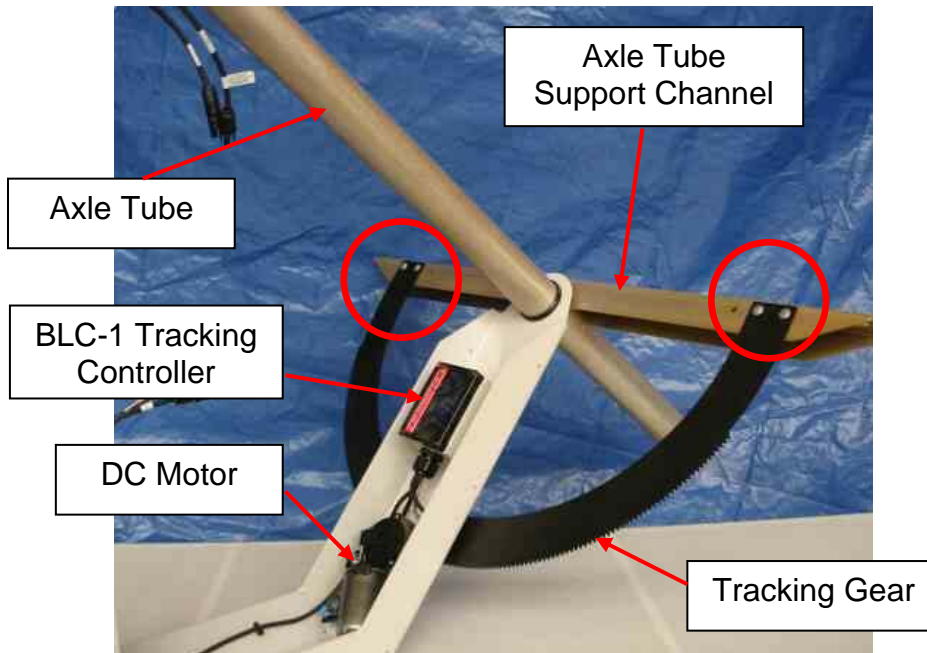

Figure 4
- Attach the Tracking Gear to the Axle Tube Support Channel using the galvanized hardware attached to the gear (4 EACH: 1/4"-20 X 3/4" carriage bolts, lock washers, flat washers, nuts). See Figure 4.